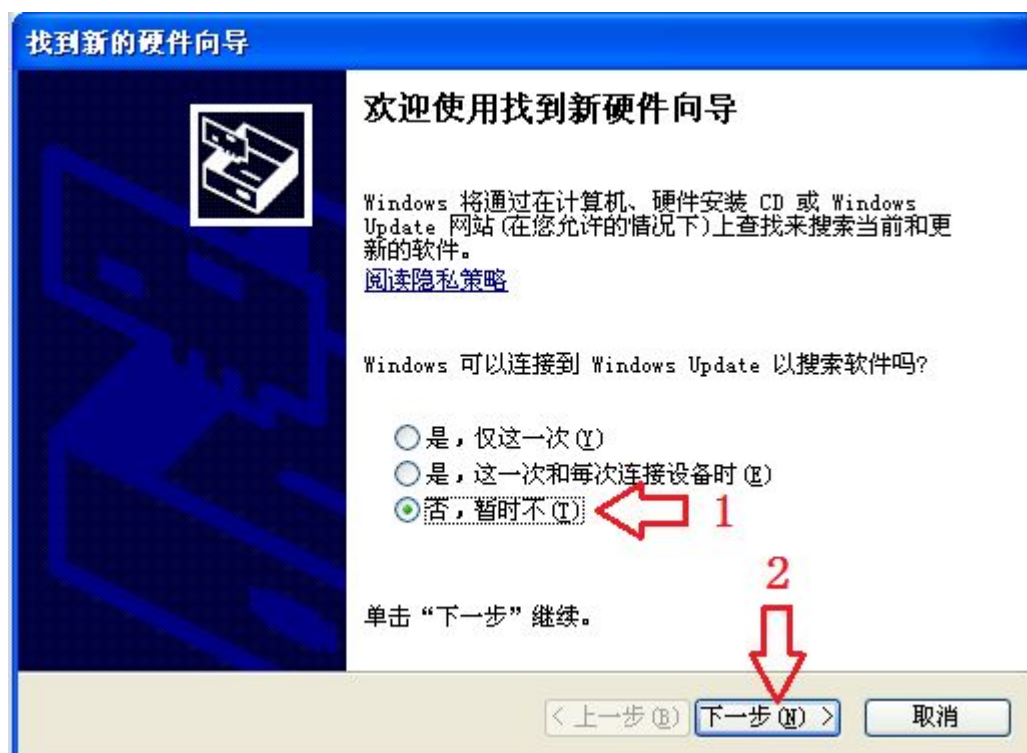
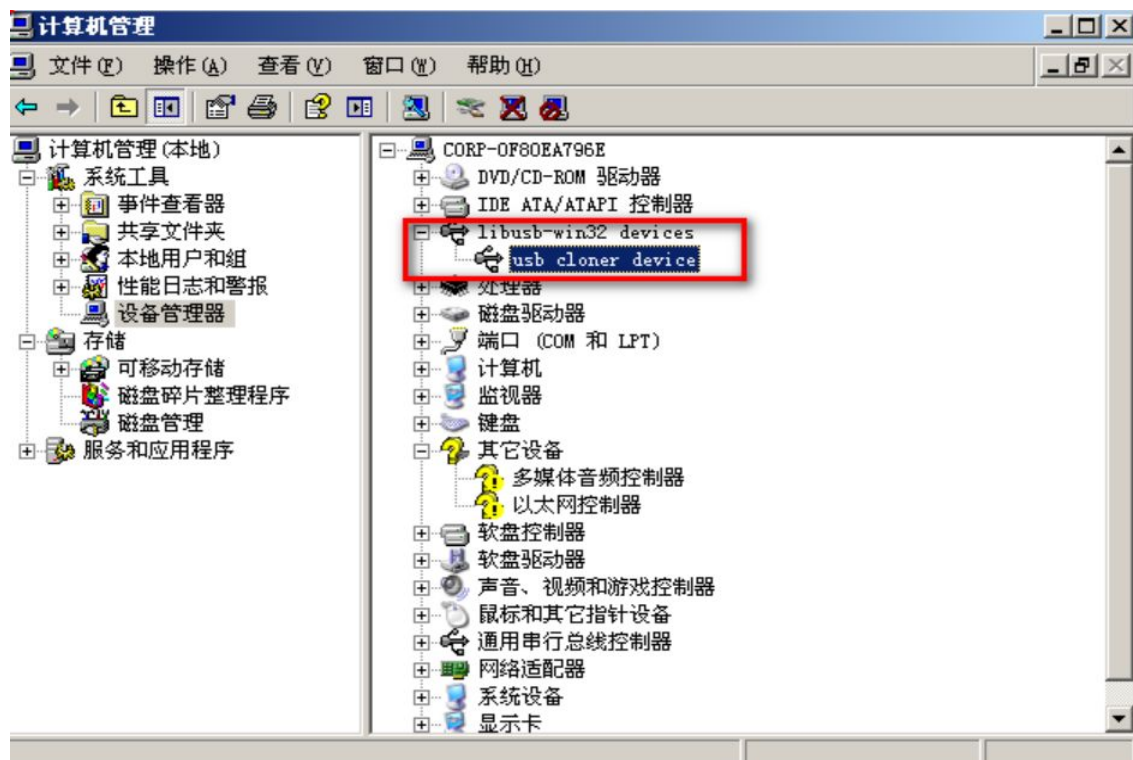

Figure 2-1: Installation wizard
Figure 2-8 The USBCloner burn tool driver
The board to enter the recording mode (development board is most long press Boot button, and click the Reset key), then if you connect to the PC development board, will pop up the hardware installation wizard, select "no", click "next", as shown in Figure 2-1.
- The update drive process is the same as in the 2.1 section. Refer to figure 2-1~2-6, the device manager after the installation is successful, as shown in Figure 2-8.